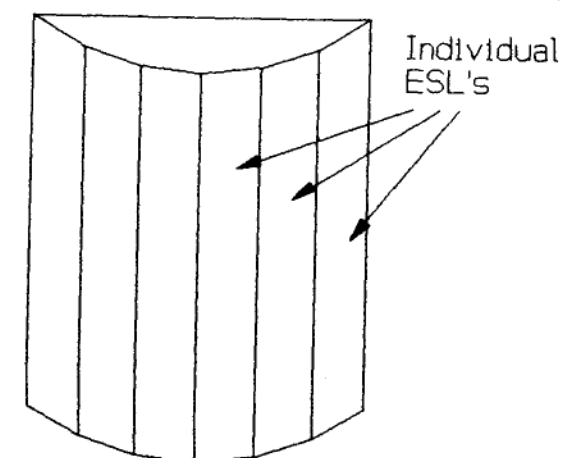

FIGURE 6-11: Wide-dispersion using many angled ESLs.
**MULTIPLE-PANEL CYLINDRICAL ESLs.** In an attempt to duplicate a pulsating cylinder, designers build small panels and place them around the surface of an imaginary cylinder. These designs can vary from a shallow arc to a complete cylinder (Fig. 6-11).